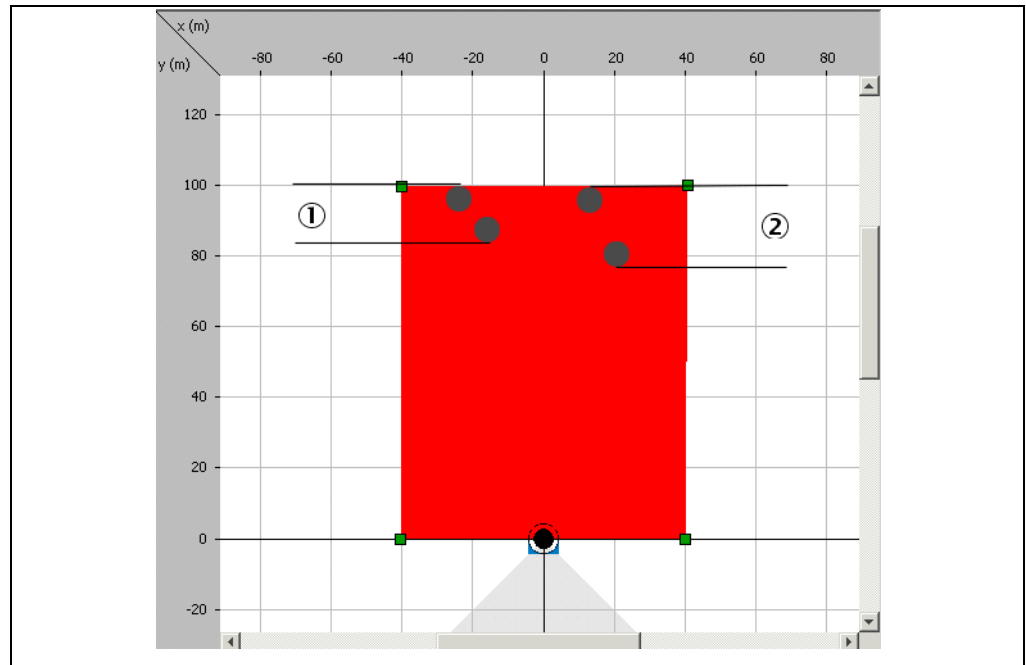

Fig. 32: Distance-dependent evaluation of two objects
In Fig. 32 the objects in example (1) are so close together (distance \leq value in the OBJECT SEPARATION field) that they are considered as one object. As a result the objects are not blanked and the evaluation field is considered infringed.